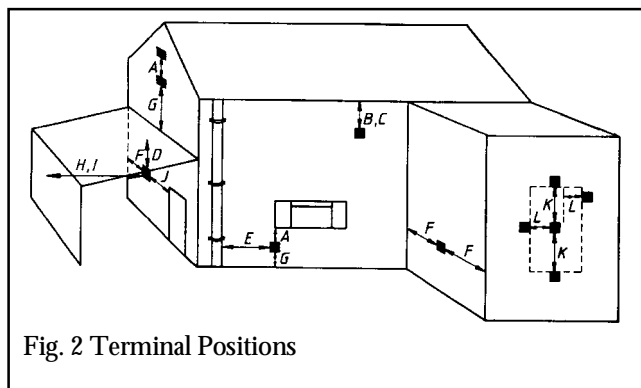

Fig. 2 Terminal Positions
**3.7** Minimum allowable distances from the terminal are shown table 1 and figure 2.
Minimum allowable distances from the terminal are shown in the table below and figure 2.